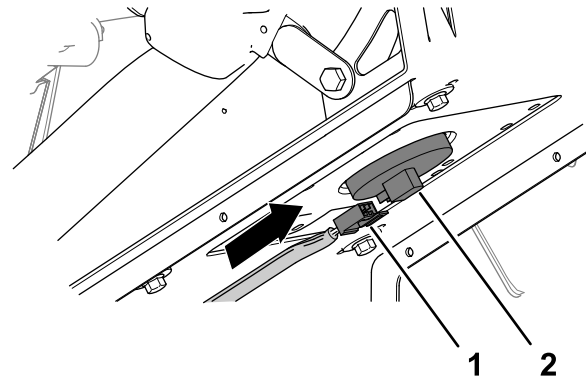

**Figure 224**
- 5. Assemble the prop rod to the bracket of the seat with the washer and hairpin (Figure 224).